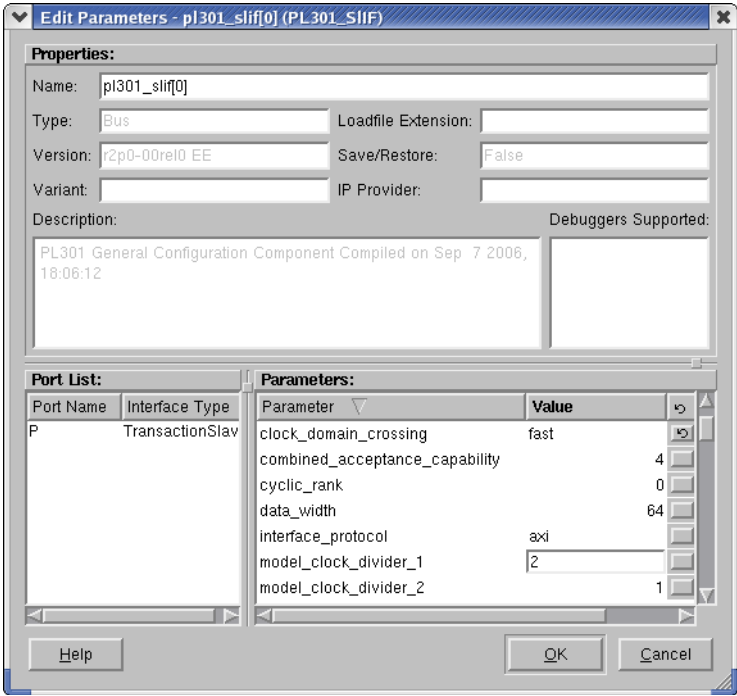

Figure 4-31 Clock domain crossing for slave 0
3. Enter 2 in the `model_clock_divider_1` parameter field, as Figure 4-31 on page 4-34 shows.